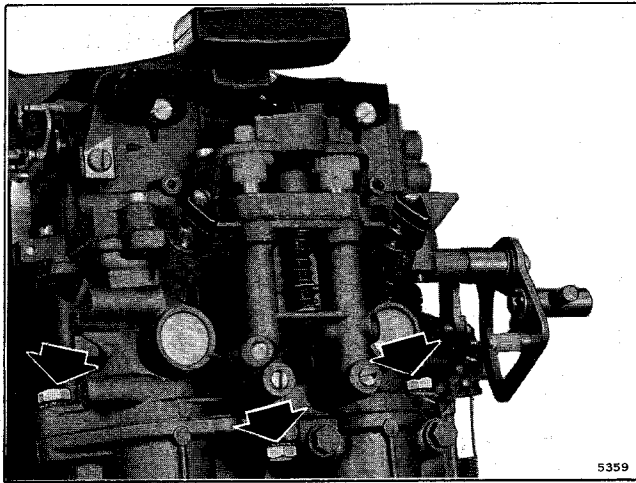

Figure 3-7. Carburetor Attaching Screws
d. Remove carburetor and gasket from manifold by removing three screws. See Figure 3-7.